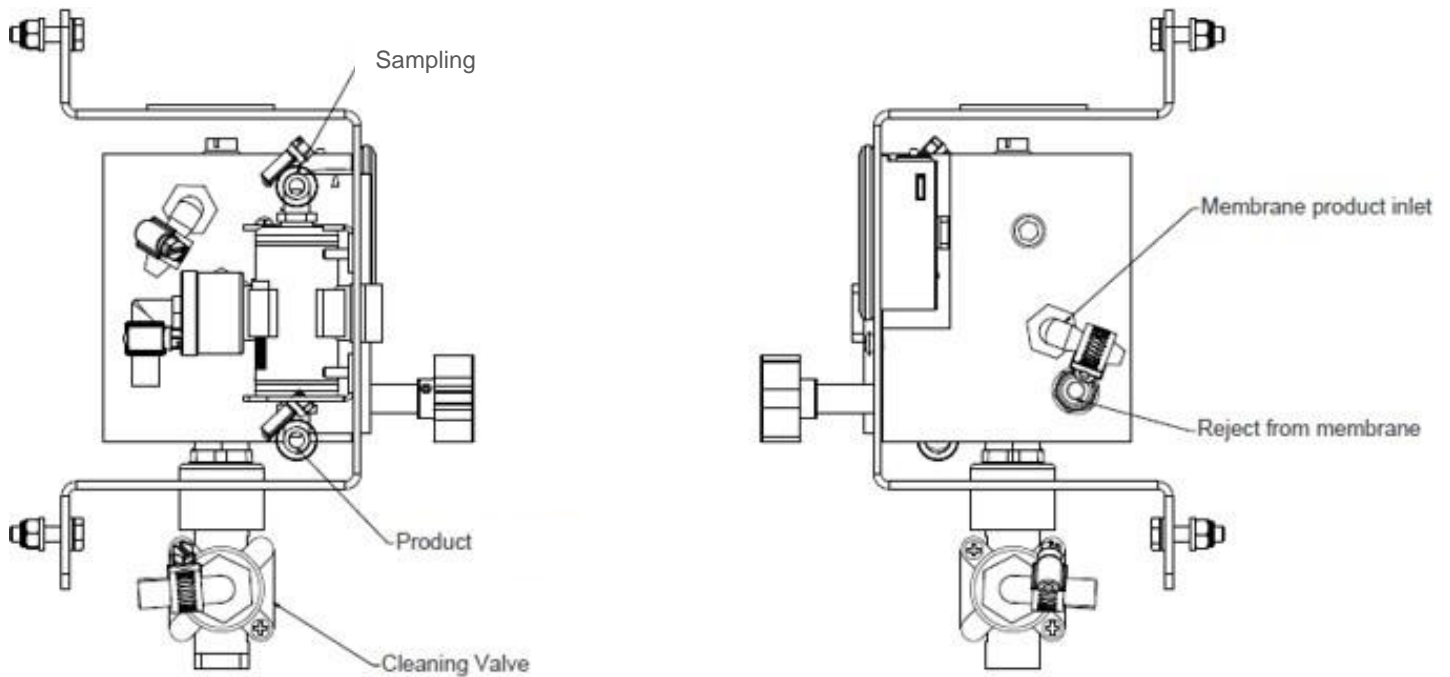

Figure 1.12: Side View System Manifold Connections
- 2) Product to tank - Connect a PVC hose (or potable water hose) from the "product" (see figure 1.12) on the system manifold assembly to product storage tank.
- 3) Product sampling - Connect a PVC hose (or potable water hose), for product water "sampling" (see figure 1.12).